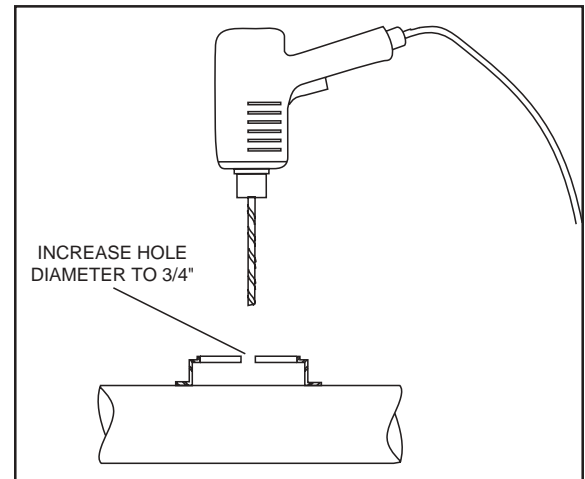

Figure 2
3. A 3/4" access hole must be made for the valve stem. Using the template, cut out the circle which best fits your model to center punch the lower spring seat for the hose/stem access. Drill a 3/4" hole, or enlarge existing hole, in the center of the lower spring seat. Remove all burrs and sharp edges (Figure 2).
If the vehicle has a rough and harsh ride it may be due to either too much pressure or not enough (fig. 2). Try different pressures to determine the best ride comfort.